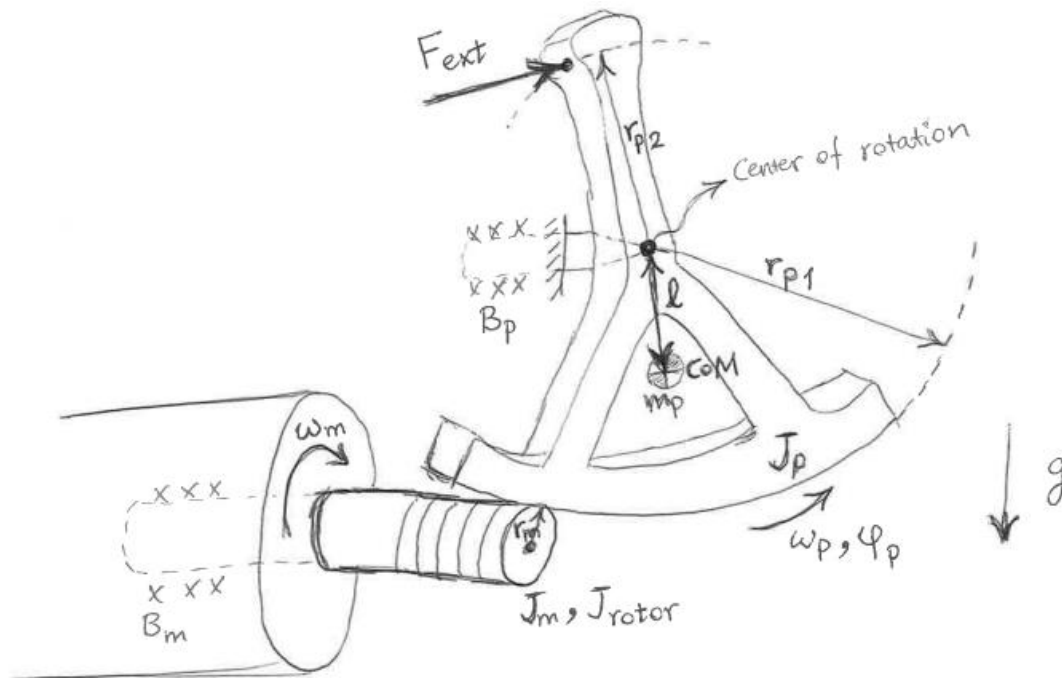

Figure 2: definition of the symbols used in the main.m file
- Open the script main.m which includes the definitions of constant parameters (refer to Figure 2 at the end of this document for a mechanical schematic showing the parameters). Complete the lines at the end of this script marked as “TO BE COMPLETED”.